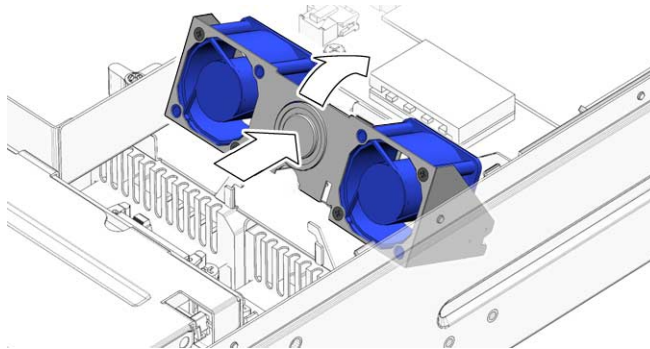

FIGURE 3-35 Releasing the Hard Drive Fan Bracket
4. Push the green release button on the center of the hard drive fan bracket, and pivot the bracket backward (FIGURE 3-35).